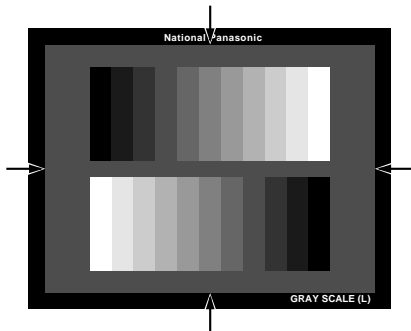

Fig. 1-1
- Logarithmic Gray Scale Chart (Part No. : YWV2310RB99) as shown in Fig. 1-1.